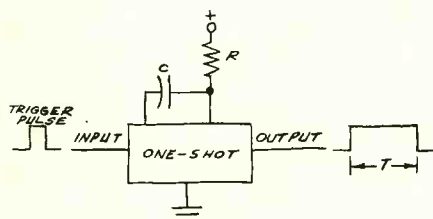

Fig. 1. Connections to a monostable multivibrator.
Figure 1 will help you understand the operation of a one-shot. As you can see, the one-shot requires an external capacitor and resistor to control the width (T) of the output pulse. The output pulse width is approximately R times C ($T=RC$) when R is given in megohms and C in microfarads. Thus, a 100,000-ohm resistor and a 0.01-microfarad capacitor will give an output pulse width of approximately one millisecond.